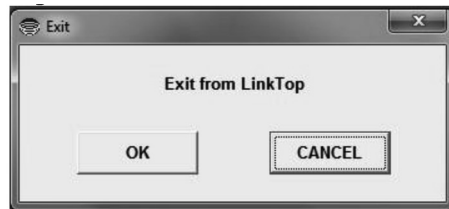

Fig.16
To exit the LinkTop, click on "File (F)" at top-level menu of the screen, select "Exit (E)", and click on again. A message box as shown in Fig. 16 appears. If you are sure to exit the LinkTop, click on "OK" button. Clicking on "OK" button will cause the application window to disappear from the desktop. To abort the terminating process, click on "Cancel".